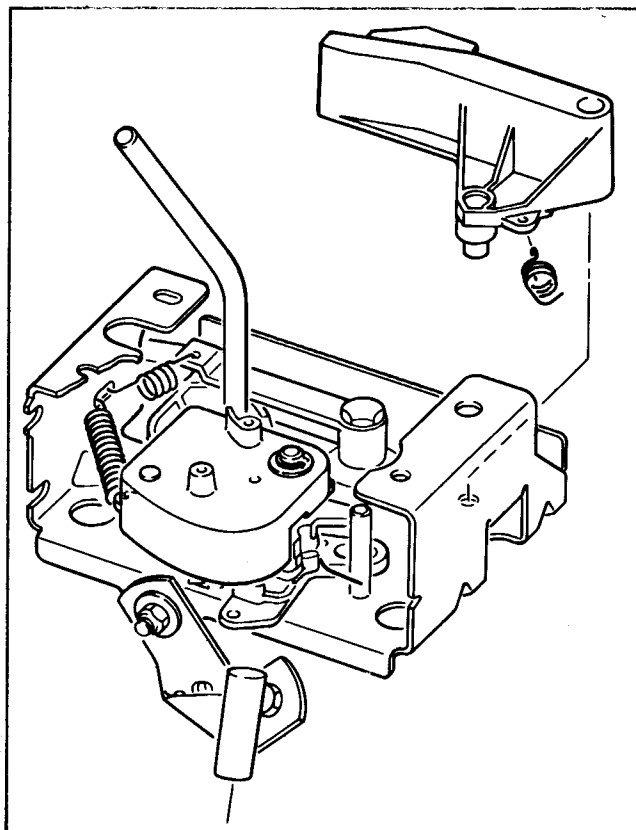

Figure 39
9. Next, install the reverse lever and reverse lever return spring as shown in Figure 39. Make sure that the boss at the bottom of the reverse lever engages the reverse bellcrank.